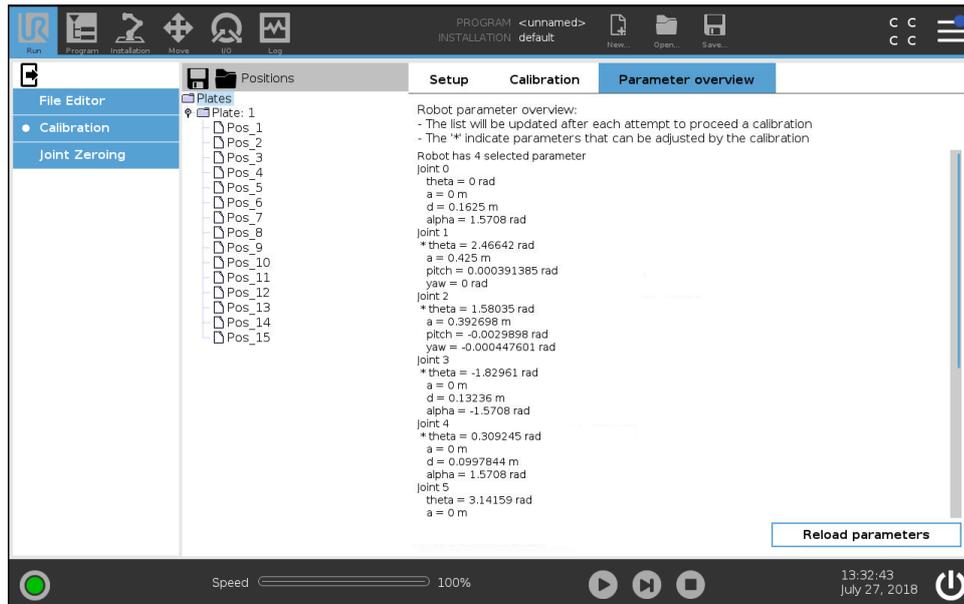

Figure 1.10: The identified parameters are displayed in the **Parameter overview**.
Calibration results, as well as the calculated statistics of the achieved precision for the given positions, are displayed under the **Parameter overview** Tab, (see Figure 1.10). Scroll down to display the complete parameters used to evaluate the success of the calibration.
- (17) Parameters can be viewed in the **Parameter overview** Tab, (see Figure 1.10).